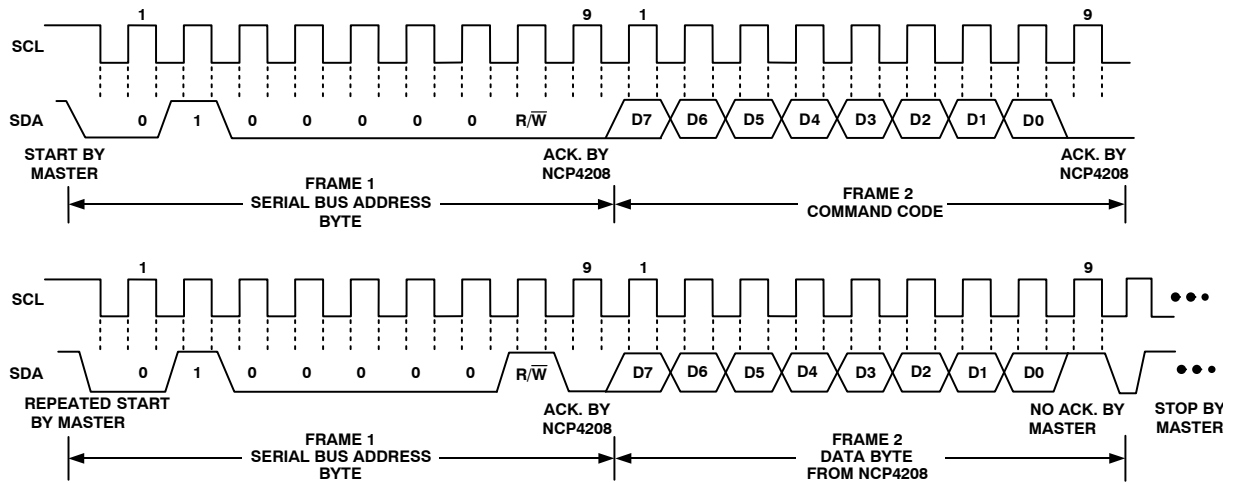

Figure 13. Read Byte
2. The read byte operation is shown in Figure 13. First the command code needs to be written to the NCP4208 so that the required data is sent back. This is done by performing a write to the NCP4208 as before, but only the data byte containing the register address is sent, because no data is written to the register. A repeated start is then issued and a read operation is then performed consisting of the serial bus address; $R/\overline{W}$ bit set to 1, followed by the data byte read from the data register.